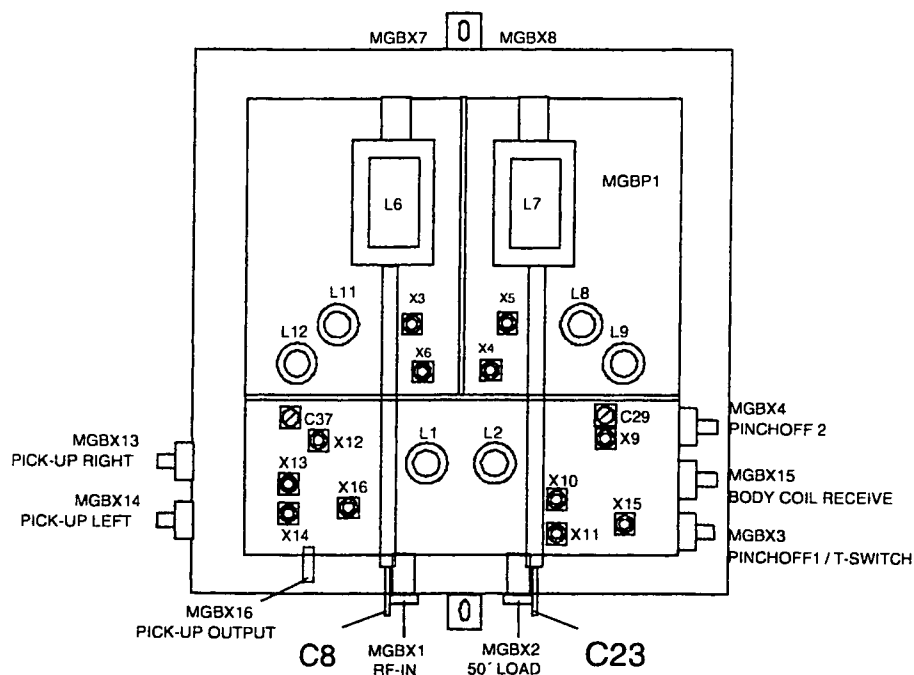

Figure 19 Hybrid Box
9. Mark the two coils L6 and L7 to be able to put them back in the same position after the adjustment, and take the two coils out of the hybrid box. See also Figure 19